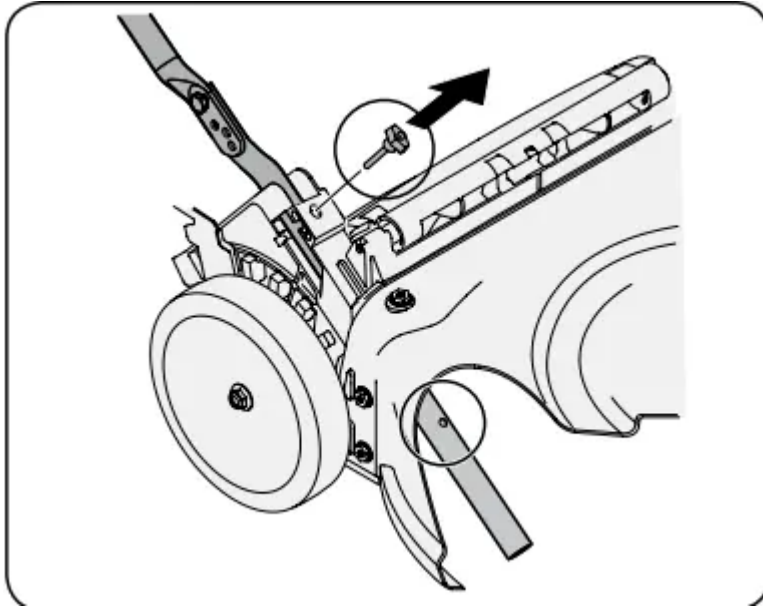
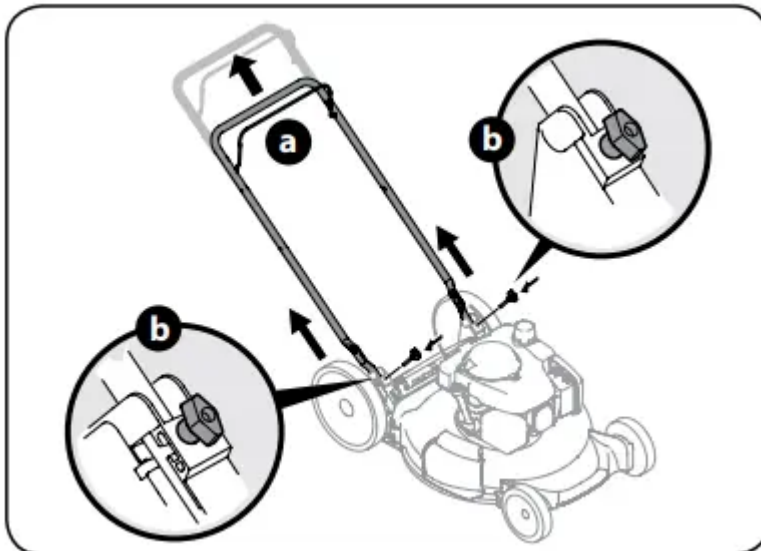

Figure 3
Figure 4
2. Remove T-bolts from the handle brackets as shown in Figure 3.
a. Pull upward on the handle until holes in lower handle (shown in Figure 3 deck cutaway) line up with holes in handle bracket. See Figure 4.
b. Insert the T-bolts removed in Step 2 through the handle brackets and lower handle and tighten securely to secure the handle in place. See Figure 4.